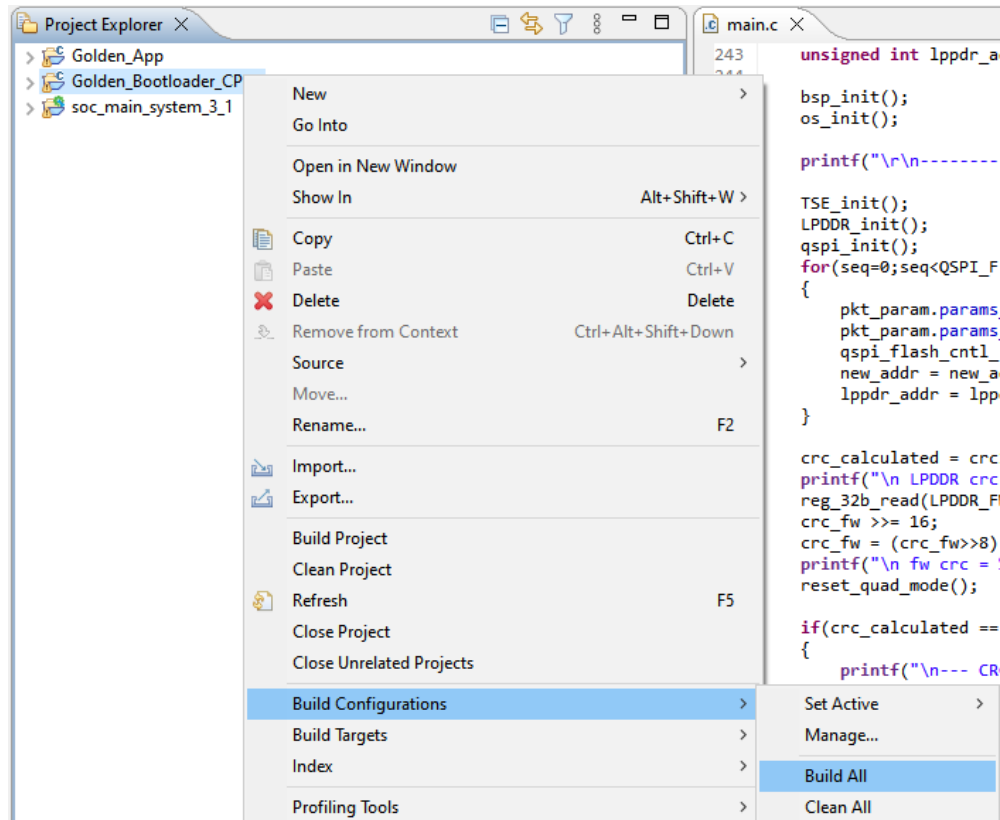

Figure C.41. Build All Configurations
15. After cleaning, right-click on *Golden_Bootloader_Cproj* and select the option as shown in Figure C.41 to build the project.